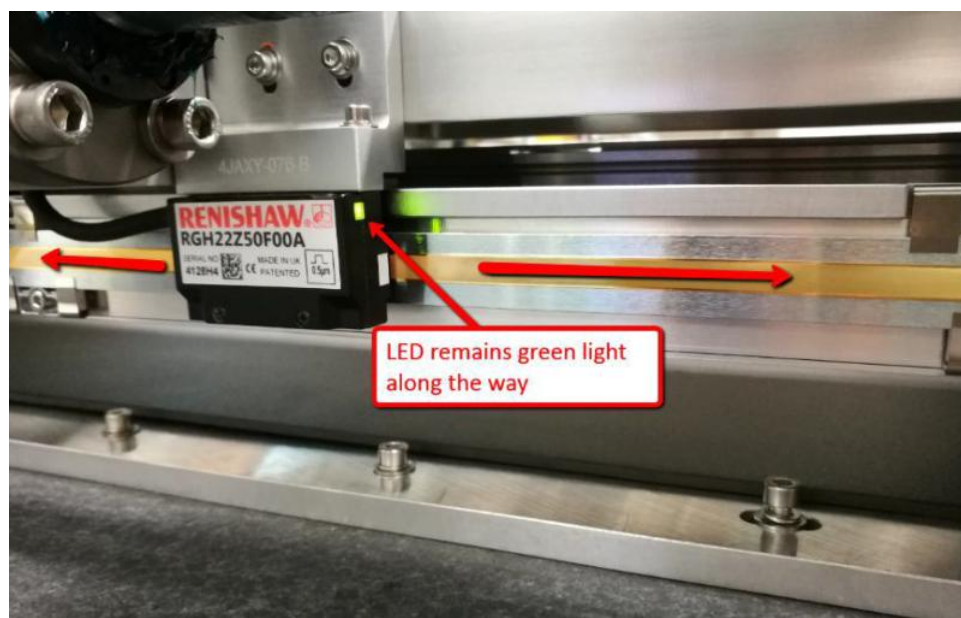

Figure 9 Encoder checking
5. Move X-Axis stage to minimum hard stop (left side) and maximum hard stop (right side). Visual check X-Axis encoder which require green light illuminated along the way as shown in Figure 9. If adjustment require, may refer to **“AXI V810 X-Axis Read Head Encoder Replacement Procedure”**.